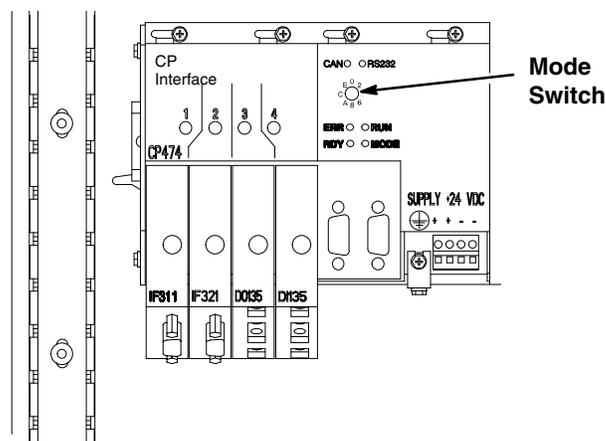

Fig. 13.67
- Set the mode switch on the controller to A. See Fig. 13.67.